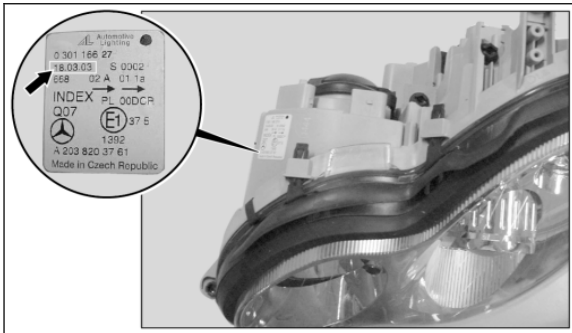

Figure 1 P-B-82.10/376a
- a. Check plug (1) of low beam (E1e2, E2e2) in lamp units (E1, E2) for voltage.
- a. If the fault changes sides with the xenon burner, replace xenon burner. Refer to WIS document AR82.10-P-1201P (203), AR82.10-A-1201QB (209) or AR82.10-P-1201R (230).
- a. Check manufacture date of ignition module found on a printed label (Figure 1, arrow) on the headlamp housing.
6. For 230 models with this complaint and with headlamps manufactured on or before manufacture dates (Figure 1) in the above table, proceed as follows to resolve.
7. For 203.0 & 203.2 models with this complaint and with headlamps manufactured on or before manufacture dates (Figure 1) in the above table, proceed as follow to resolve.
8. For 203.7 & 209 models with this complaint and with headlamps manufactured on or before manufacture dates (Figure 1) in the above table, proceed as follow to resolve.